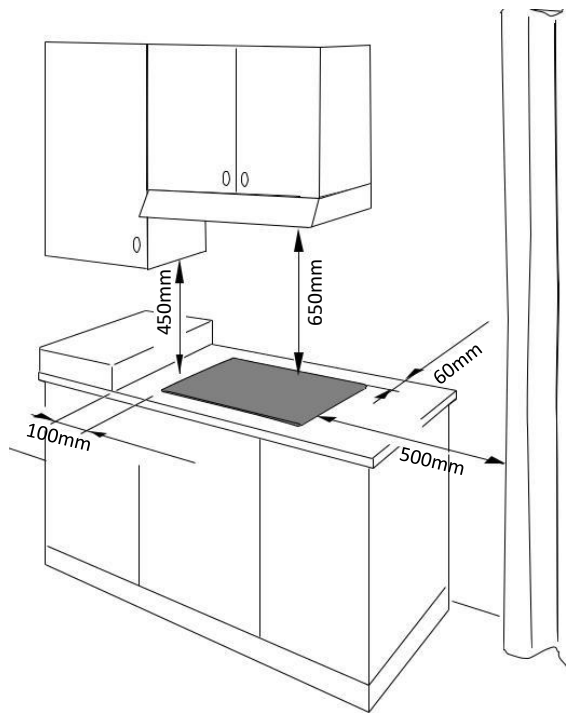

Fig. 7
- There must be a distance of at least 650 mm between the hob and any wall cupboard or extractor hood positioned immediately above (Fig.7).